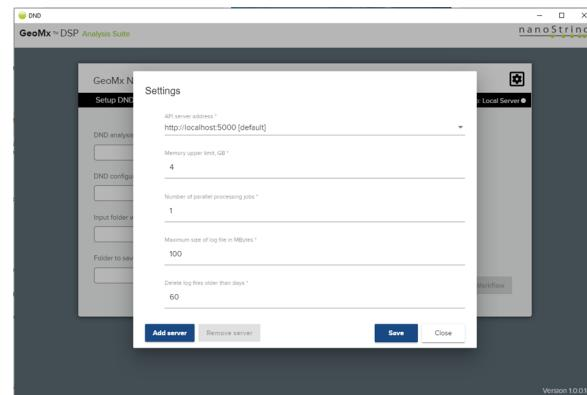

Figure 33: Adding a server
- Once installed, add the server in the UI by clicking **new server**, entering the Public IPv4 address of the server (four integers separated by periods followed by :**5000**), then clicking **Add (see Figure 33)**.